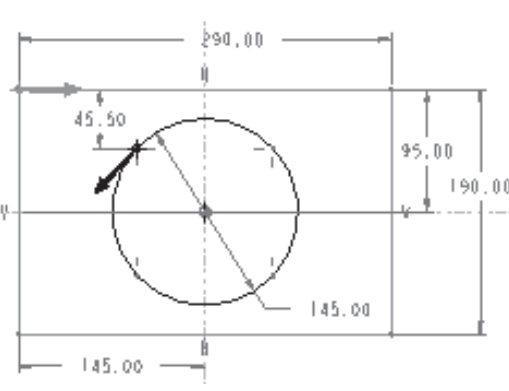

Figure 7-56 The two completed sections
- c. Draw the second section, apply the dimensions and constraints, see Figure 7-56 and then toggle the section to draw the third section.
1. Draw the sketch of the circular section, refer to Figure 7-56. Modify the diameter of circle to 145.
2. Select the circle at four points as shown in Figure 7-56.
4. Modify the vertical dimension of the upper left division point as shown in Figure 7-56. After the circular section is completed, the two sections with dimensions should look similar to the sections shown in Figure 7-56.